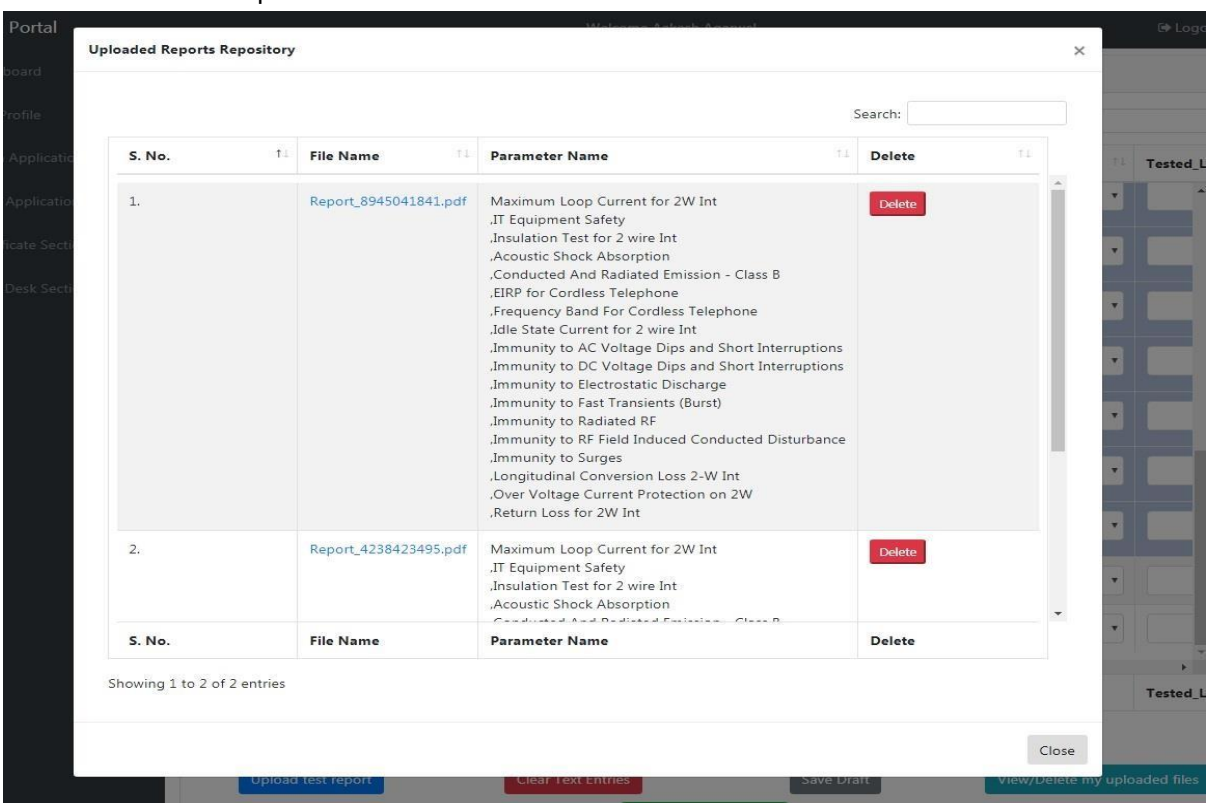

Fig. 22: Uploaded Reports Repository
- **View/Delete my uploaded files** – this button show's Uploaded Reports Repository uploaded by the user as shown in Fig. 22. Figure shows user uploaded reports for different parameters